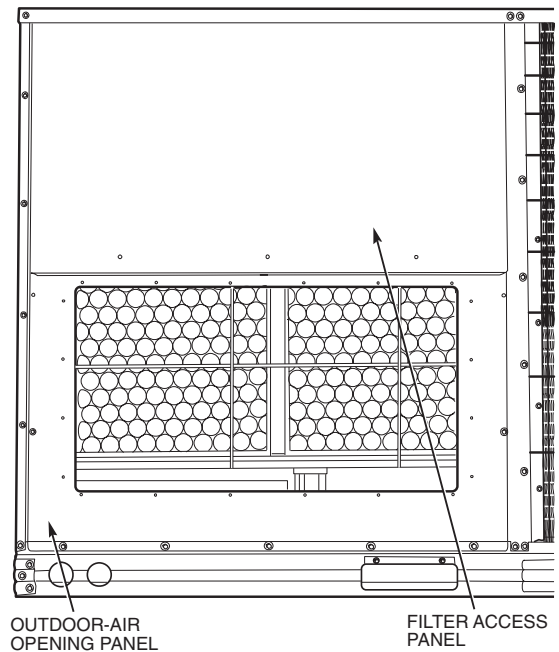

Fig. 24 — Typical Access Panel Locations
1. To remove the existing unit filter access panel, raise the panel and swing the bottom outward. The panel is now disengaged from the track and can be removed. Remove the indoor coil access panel and discard. See Fig. 24.
3. Replace the filter access panel. See Fig. 24. Ensure the filter access panel slides along the tracks and is securely engaged.